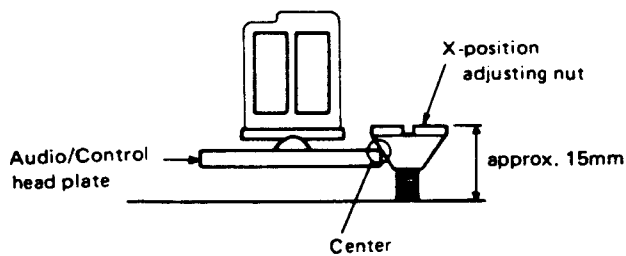

Figure 1-23.
- d. After tape travel adjustment, adjust the X-position. Set the playback mode tracking control to the preset position, rotate the X-position adjusting nut shown in Fig. 1-23 with the X-position adjusting screwdriver so as to obtain the maximum envelope of switching pulse (Low channel), and adjust the positions of the audio/control head. After the X-position adjustment, adjust the switching point to $6.5 \pm 0.5H$. Check the flatness of envelope and sound by self-recording.